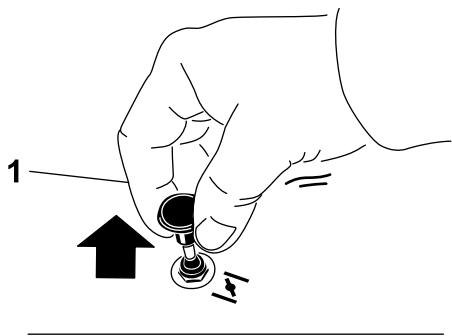

Figure 25
1. Pull up the choke knob to engage the choke before using the key switch (Figure 25).
2. Push down the choke knob to disengage the choke after the engine has started (Figure 25).